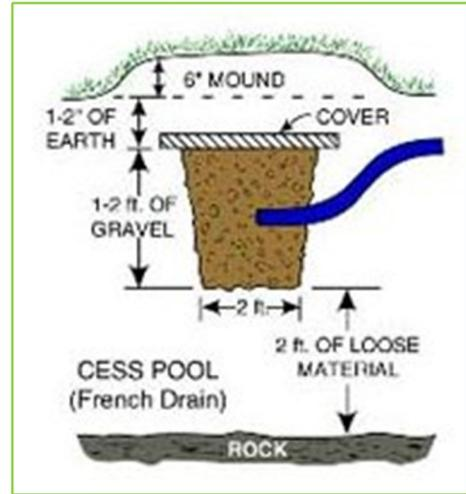

Figure 7. A small cesspit (French drain). Image courtesy of Sun-Mar.
**TIP:** To build a small cesspit as shown in Figure 7: